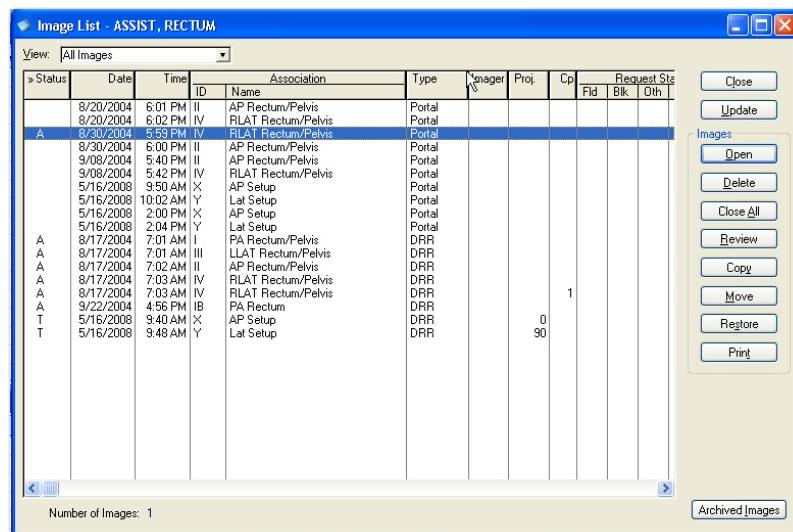

Figure 69: Image List Window
4. Select a patient record as shown in Figure 69.